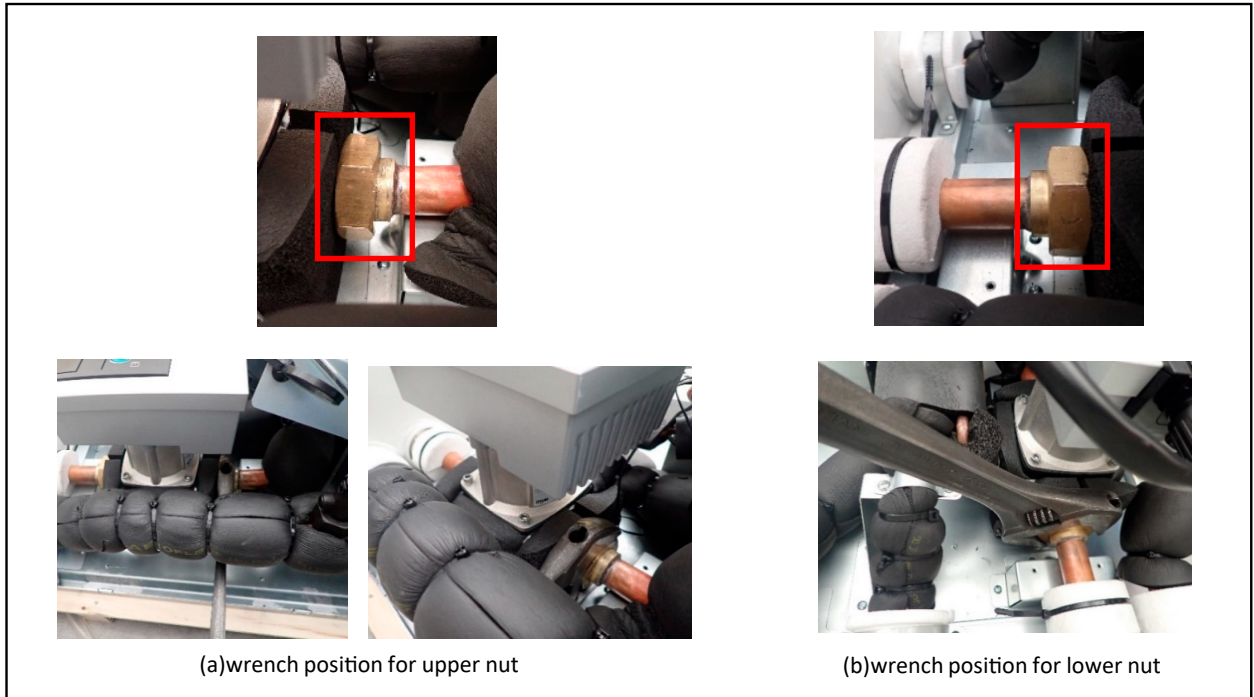

Fig10. Loosen the nut
- (e) Loosen the nut and remove the pump.(□ mark, Fig.10)